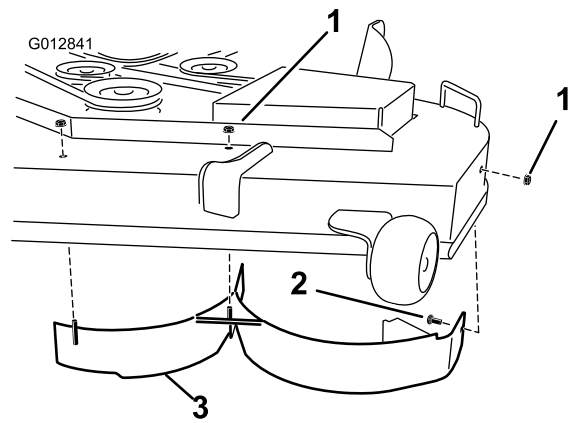

Figure 29
6. Remove the two locknuts (5/16 inch) secured to the welded posts of the left baffle on the top of the mower deck at the center and left of center positions (Figure 29). Remove the carriage bolt and locknut on the side wall of the mower deck securing the left baffle to the deck.
7. Remove the left baffle from the mower deck as shown in Figure 29.